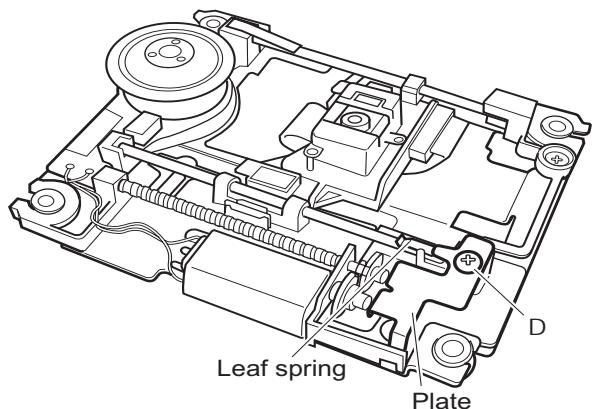
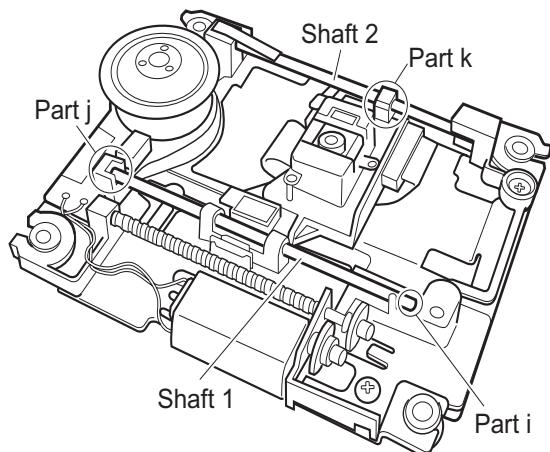

Fig.12
Fig.13
2.3.1 Removing the pickup (See Figure 12, Figure 13)